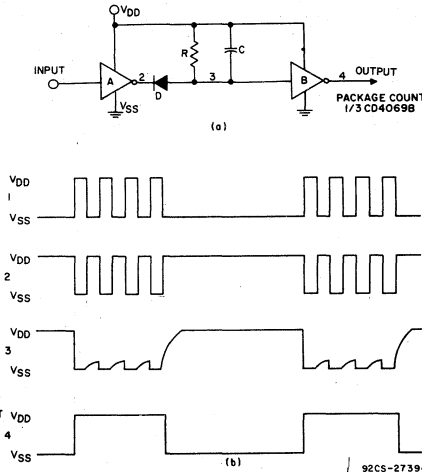

Fig. 25 - (a) Demodulator circuit, (b) waveforms.
Modulation or envelope detection of pulse-modulation waves is performed by the circuit shown in Fig. 25(a). The carrier burst is inverted (by inverter A); its first negative transition at point 2 turns on the diode (D) to provide a charging path for C through the n-channel resistance to ground. On the positive transition of the signal (at point 2), the diode is cut off and C discharges through R. The discharge time constant (RC) is much greater than the time of the burst-signal period. Point 3, therefore, never reaches the switch point of inverter B until the burst has ended. The waveforms for 4 points in the circuit are shown in Fig. 25(b).